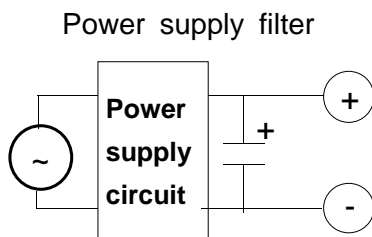

Fig. 1
▶ The voltage derating factor should be as great as possible. Under normal conditions, the operating voltage should be reduced to 50% or less of the rating. It is recommended that the operating voltage be 30% or less of the rating, particularly when the tantalum capacitors are used in a low-impedance circuit (see Figs. 1, 2, and 3).